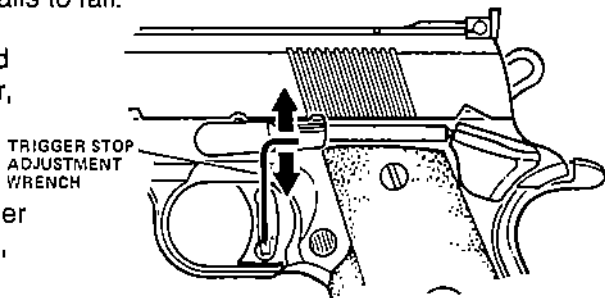

FIGURE 9—ADJUSTING TRIGGER STOP
2. Remove magazine, fully cock the pistol and allow slide to return forward. Squeeze trigger—if hammer falls proceed with Step 3; if hammer fails to fall proceed with Step 4. (See Figure 9)